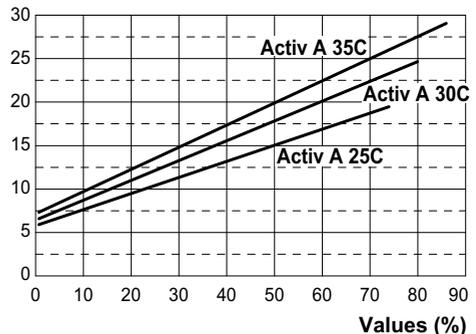
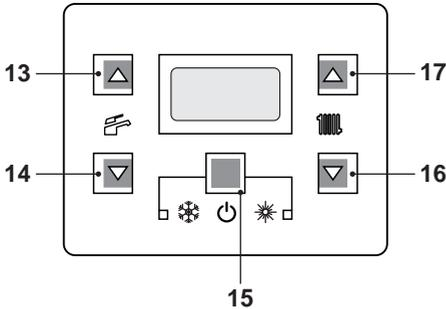
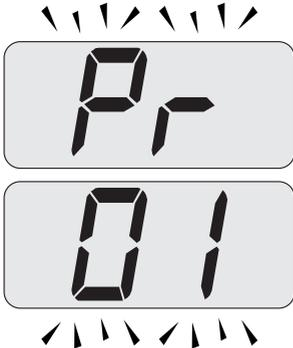
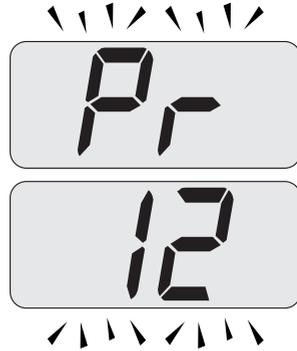

Fig. 7.40
Fig. 7.41
Fig. 7.42
Fig. 7.43
Refer to Fig. 7.40 and determine the correct Value appertaining to the output required for the central heating requirement.
- Enter the "programming mode" by pressing keys 15 - 16 - 17 (Fig. 7.41) for 10 seconds at the same time until the letters **Pr** that alternate with code **01** are displayed on the LCD display, indicating that "parameter 01"(Fig. 7.42) has been activated.
- Scroll the various parameters using keys 16 or 17 until the letters **Pr** that alternate with code **12** are displayed on the LCD display, indicating that "parameter 12" (Fig. 7.43) has been activated.
- Press keys 15 and 17 (Fig. 7.41) at the same time until the value of parameter 12 (74=Activ A 25C or 79=Activ A 30C or 86=Activ A 35C) is displayed on the LCD display (Fig. 7.44).
- It is possible to modify parameter using keys 16 or 17 (Fig. 7.41) (Refer to Fig. 7.40 and determine the correct Value appertaining to the output required for the central heating requirement.).
- By pressing key 15 (Fig. 7.41) confirmation of the inserted value is obtained.
- Press keys 15 and 16 (Fig. 7.41) at the same time to exit without changing the value (return to the parameters list Fig. 7.43)
- Press keys 15 - 16 - 17 (Fig. 7.41) at the same time for 10 seconds to exit the "programming mode".